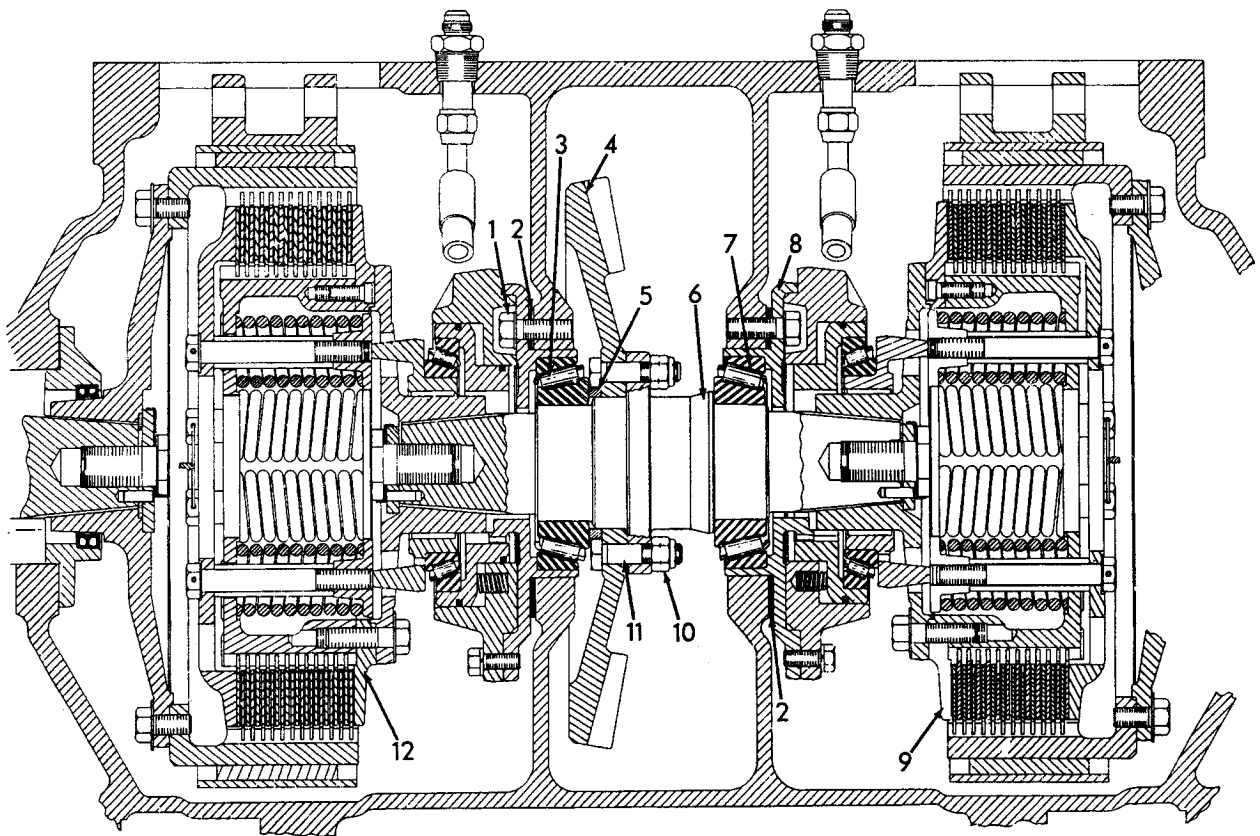
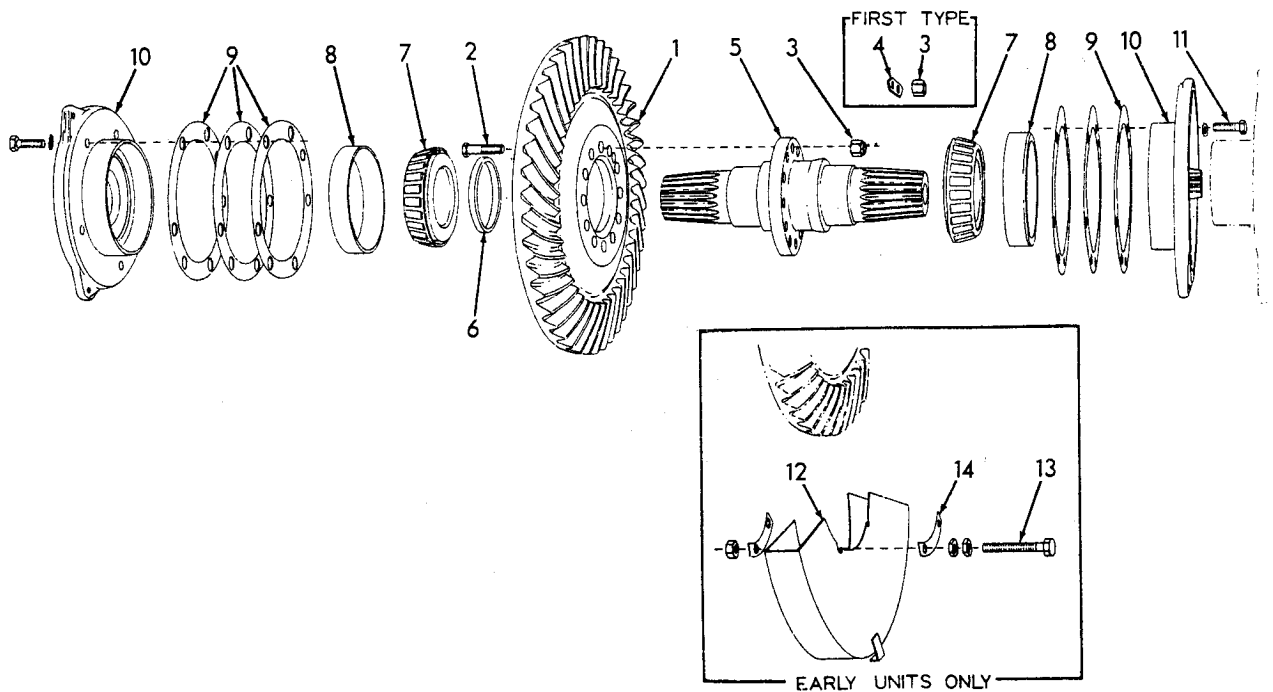
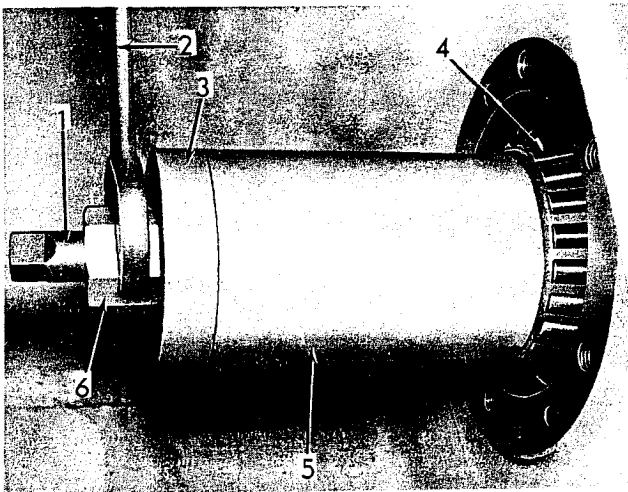

Fig. 50 -- Bevel Gear and Shaft - Sectional View
Fig. 52 -- Bevel Gear and Shaft Parts
Fig. 53 -- Installing Bevel Gear Shaft Bearing Cone
Bevel gear, located in center compartment of steering clutch and final drive housing, is attached to bevel gear shaft, Fig. 50. Bevel gear shaft is supported at each end by tapered roller bearings in removable cages. Bevel gear is driven by transmission bevel pinion; power from bevel gear is transmitted through steering clutches to final drives.
3. Refer to Fig. 50; remove capscrews attaching bearing cages (8) to inner walls of steering clutch compartments; place wooden block under bevel gear to support gear and shaft and remove bearing cages; tie bearing adjustment shims (2) to respective cages to prevent loss. Mark bearing cages so they will be reinstalled in original positions (left and right).
Prior to HD6EP S/N 15948 and HD7G S/N 23054 oil pan capscrews Fig. 52 (13) replace two bottom capscrews in left bearing cage.
1. Refer to Fig. 50, press one bearing cone (3) on long end of shaft with large O.D. of bearing against shoulder on shaft. Place bevel gear on bench (gear teeth down). Position capscrew locking ring (5) on bevel gear and install bevel gear capscrews (11); turn capscrew heads as necessary to clear locking ring as capscrews are installed.
2. Remove locking ring and position bevel gear in bevel gear compartment with gear teeth facing right steering clutch compartment. Install bevel gear shaft through right steering clutch compartment and align capscrews in bevel gear with holes in bolting flange of shaft. Bump or drive bevel gear shaft into bevel gear until locking plates Fig. 52 (4) and high nuts (3) (or elastic stop nuts Fig. 50 (10) can be started on capscrews. Install locking ring Fig. 52 (6) and tighten nuts evenly until bevel gear is properly located on shaft.
3. Lubricate other bearing cone, Fig. 52 (7) and start on short end of bevel gear shaft with large O.D. of bearing toward bevel gear. Refer to Fig. 53; install puller screw in tapped hole in end of shaft and place tube against inner race of bearing cone. Install tube end plate, thrust washer, and hex-nut; tighten hex-nut until bearing cone is against capscrew locking ring. Remove tools.
4. Press bearing cups Fig. 50 (7) in bearing cages (8); be certain cups are seated firmly in cages. Lubricate bearings with clean oil and install each bearing cage (with original bearing adjustment shims) in bore from which